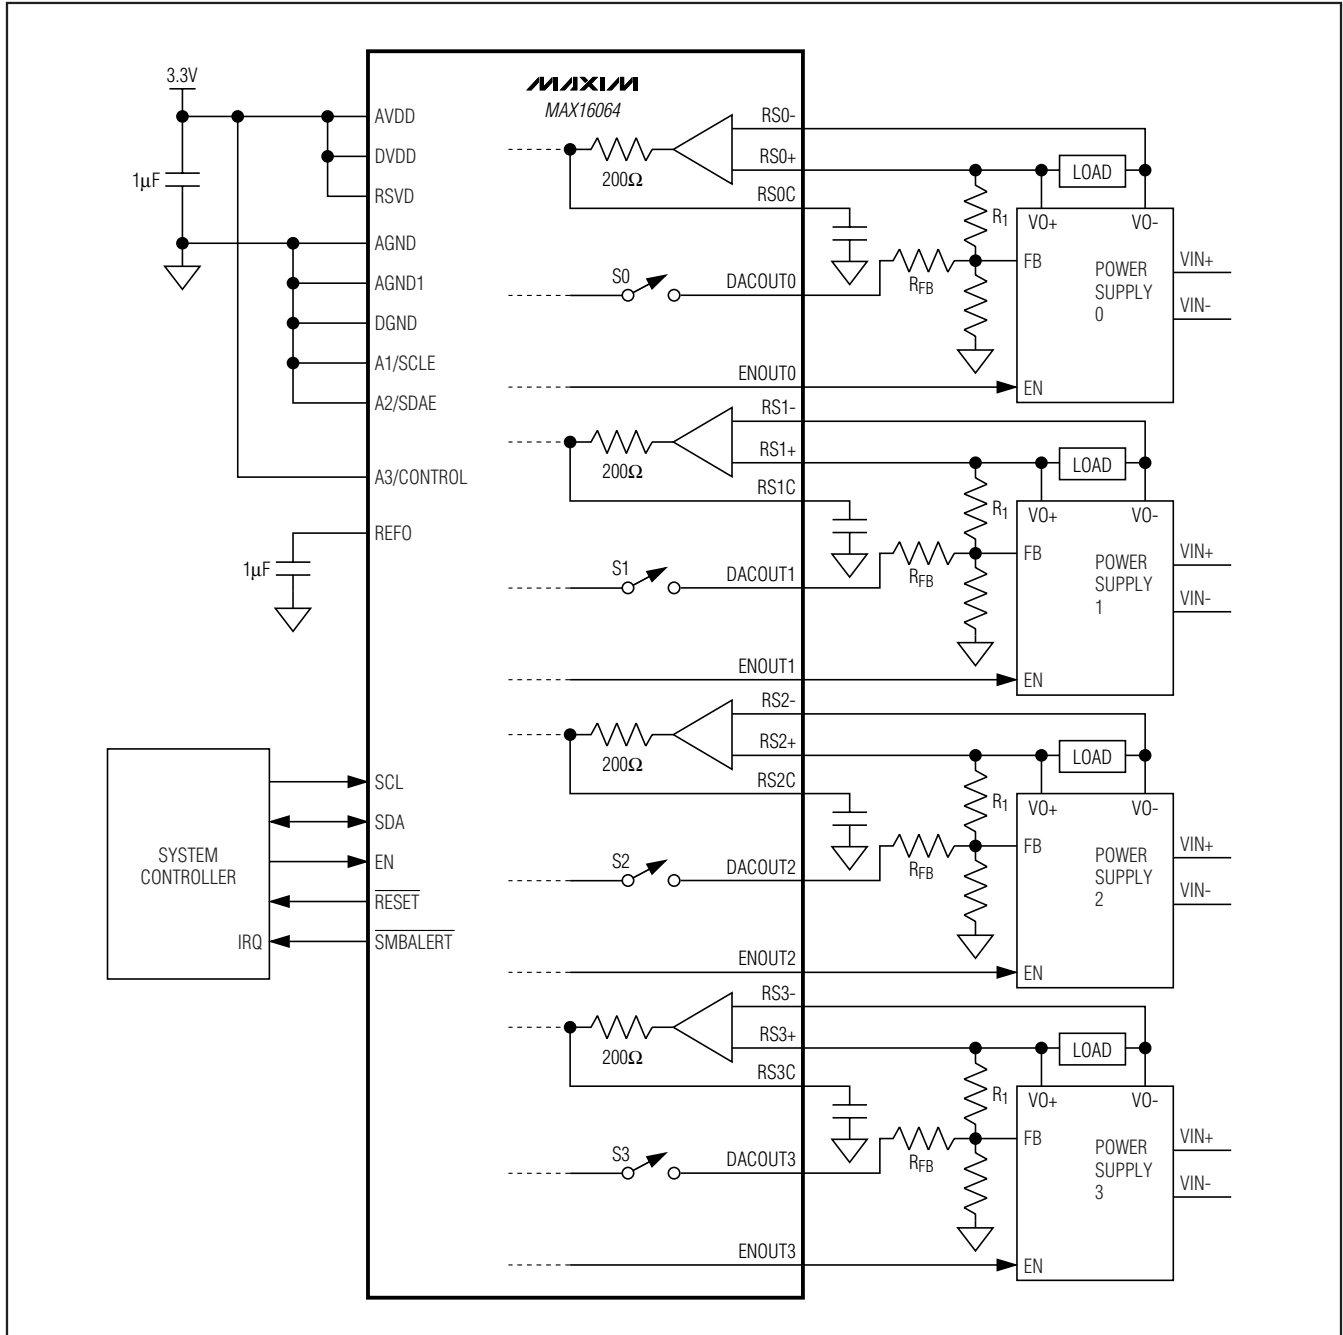

Figure 5. Typical System Application—Feedback Mode
Some power-supply converters do not provide a reference input. In these applications, the feedback node can be used instead. Connect a DACOUT\_ output of the MAX16064 to the feedback node (FB) through a resistor RFB as shown in Figure 5. In steady-state operation, the MAX16064 controls the power-supply voltage as measured between RS\_+ and RS\_- to ±0.3% accuracy by adjusting DACOUT\_ 1 LSB at a time (0.5mV), up and down as required. This mode of operation is termed FB mode. Since the MAX16064 does not have control over the power-supply error-amplifier reference voltage, this mode relies on the power-supply soft-start setting to implement the required soft-start time.